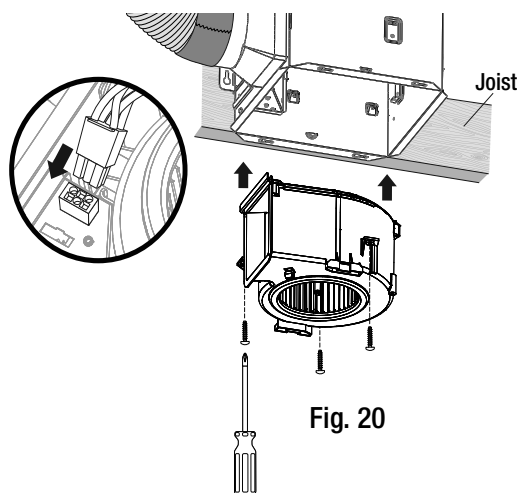

Fig. 20
- Reinstall motor mounting assembly. Plug the motor into the receptacle. See figure 20.